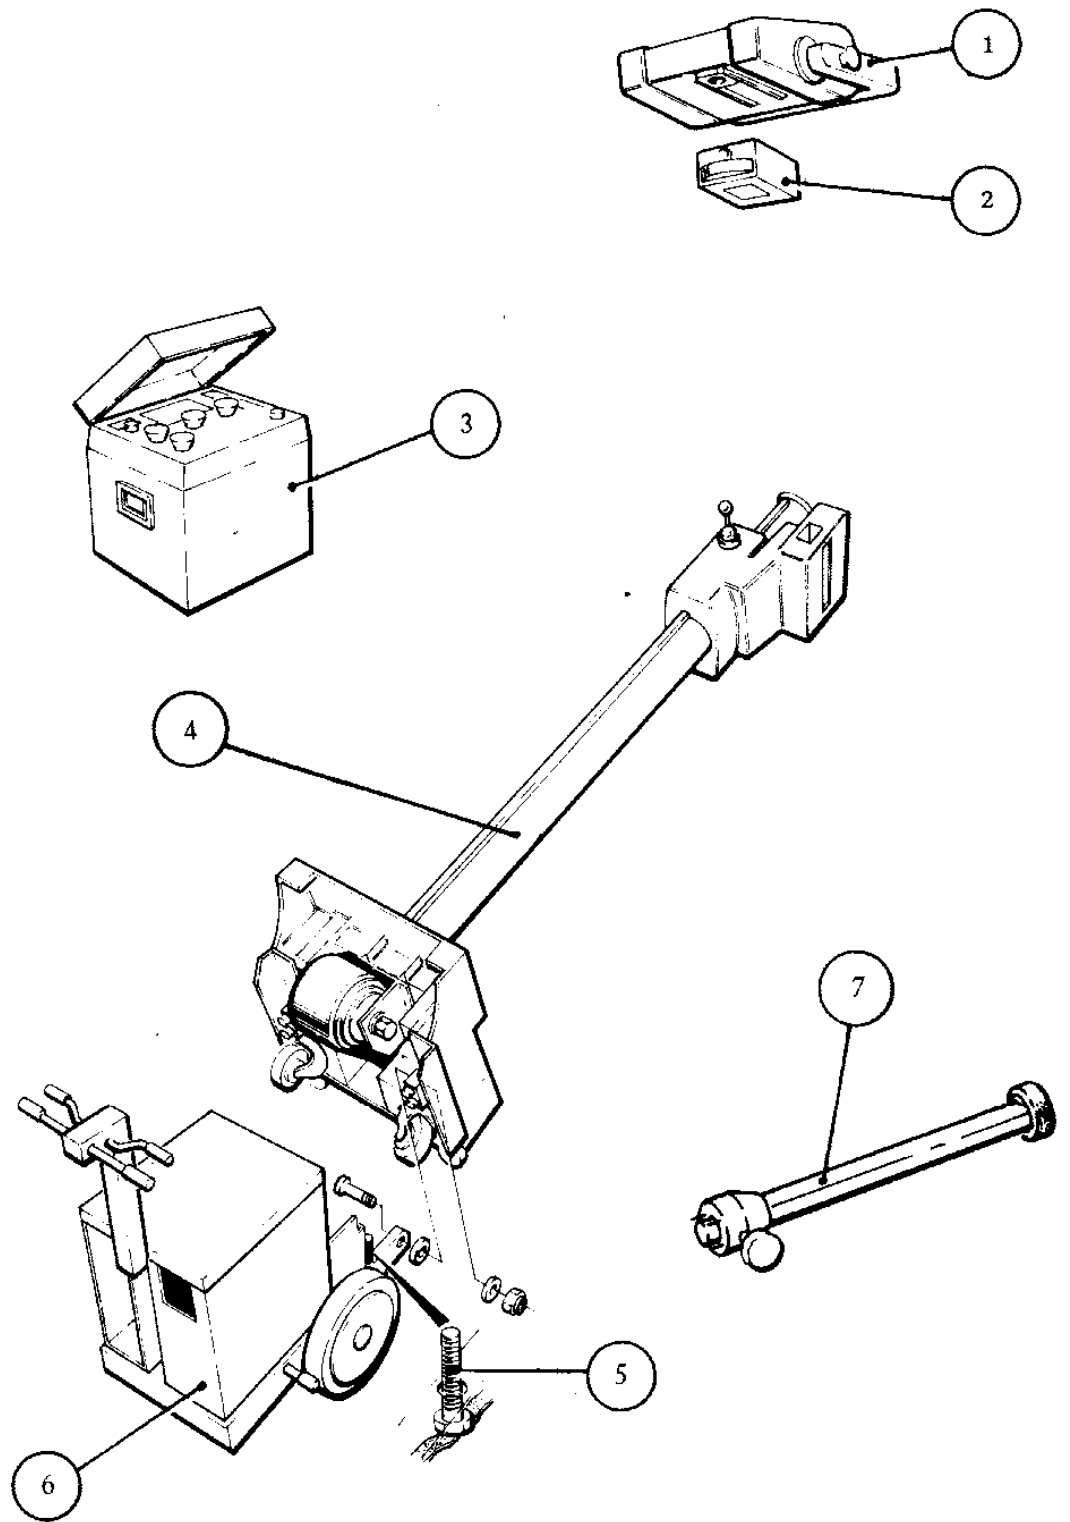

Fig 2 Components
2. INVENTORY of COMPONENTS. Fig 2